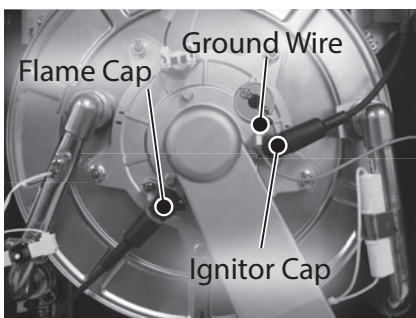

Figure 137 - Remove ignitor rod and flame sensor caps
- 30** Locate the flame sensor and ignitor rod on the burner assembly as shown in Figure 137 (following page). Remove the caps from flame sensor and ignitor rod. **DO NOT** pull wires. Disconnect the green ground wire from the ignitor rod assembly.